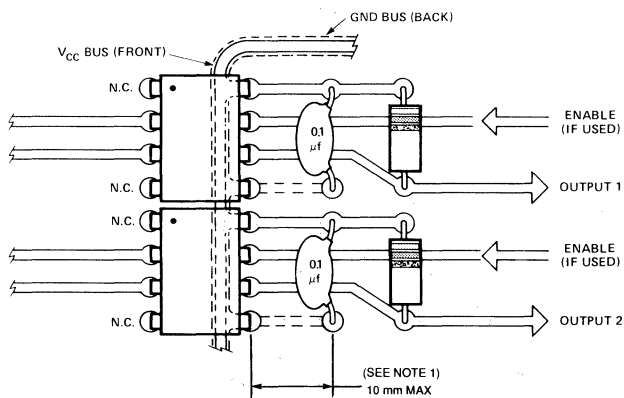

Figure 16. Recommended Printed Circuit Board Layout.
- By-passing of the power supply line is required, with a $0.1\ \mu\text{F}$ ceramic disc capacitor adjacent to each optocoupler as illustrated in Figure 16. Total lead length between both ends of the capacitor and the isolator pins should not exceed 10 mm.